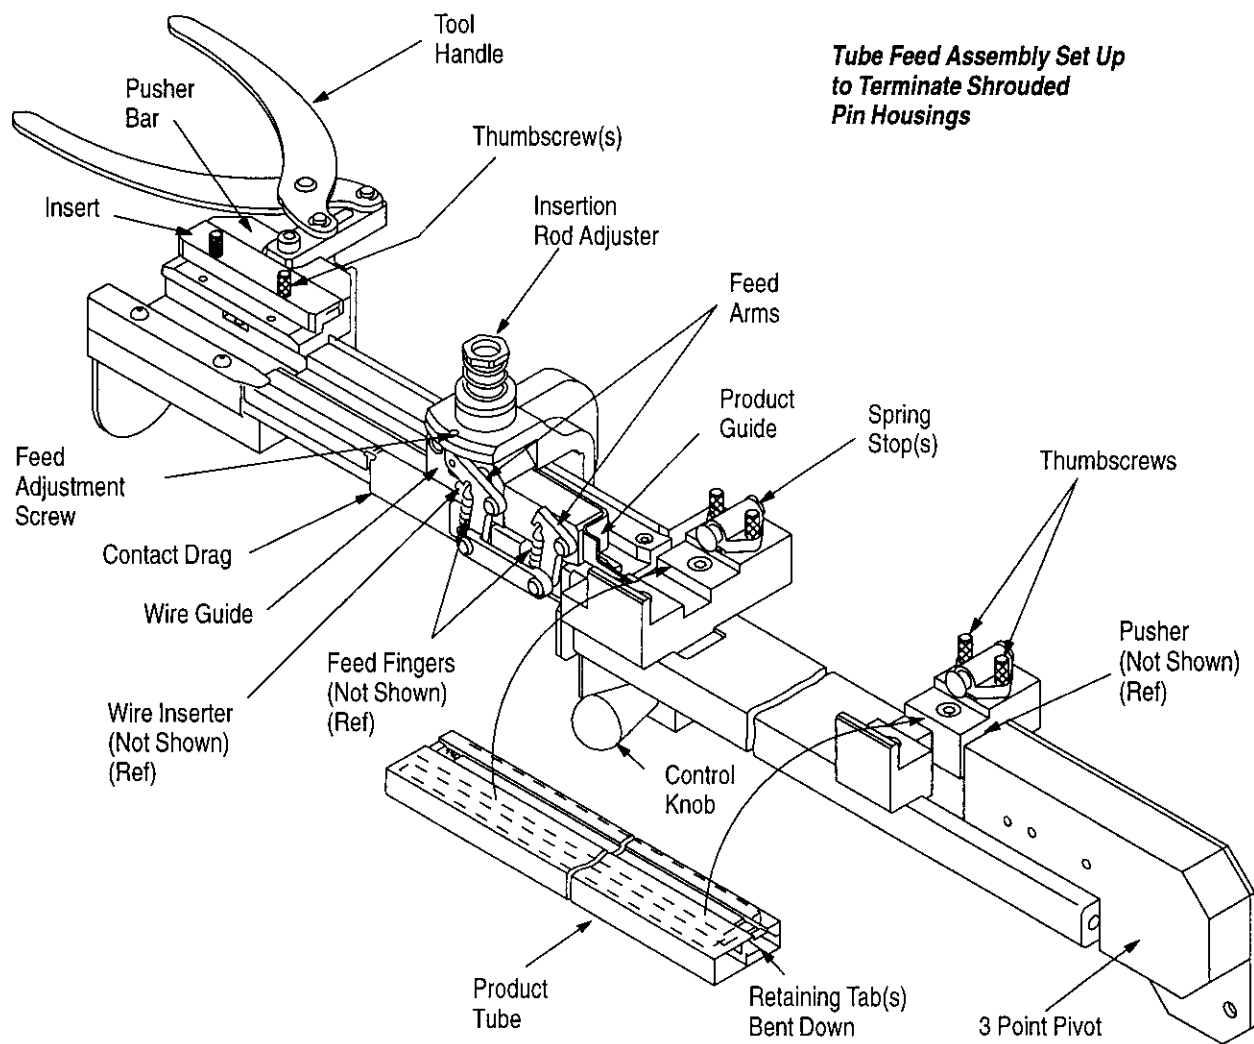

Figure 1
B. Shrouded Pin Housings (Figure 1)
2. Move control knob to the left (toward the seating station) until the latch engages with the sheet metal block at the far end. Place the product tube between the spacer blocks, as shown in Figure 1.
6. Check position of insert on pusher bar. The insert must be positioned for the appropriate product, as shown in Figure 1. To re-adjust the insert, remove the thumbscrews, rotate the insert to the proper position; then retighten the thumbscrews.